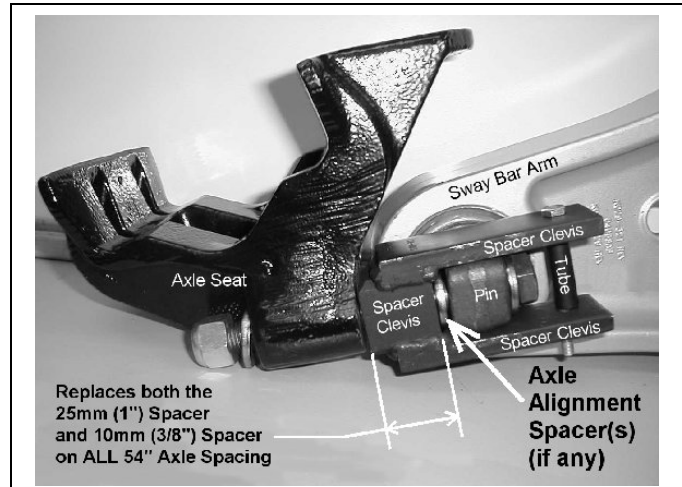

Figure 17-27
6. Chassis with AG200 54 in. axle spacing: If present, cut off and discard the spacer clevis See Figure 17-27. Grind the welds flush with the axle seat mounting surface.